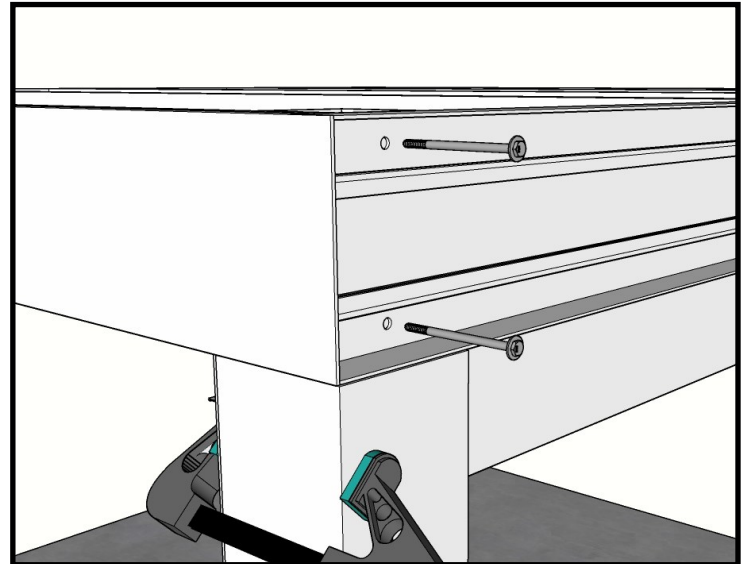

Fig 11
9. Install the 3/8" x 5" bolts provided. Use the flat washers, lock washer and nut. Tighten to secure. Two bolts each post. (see fig 11)